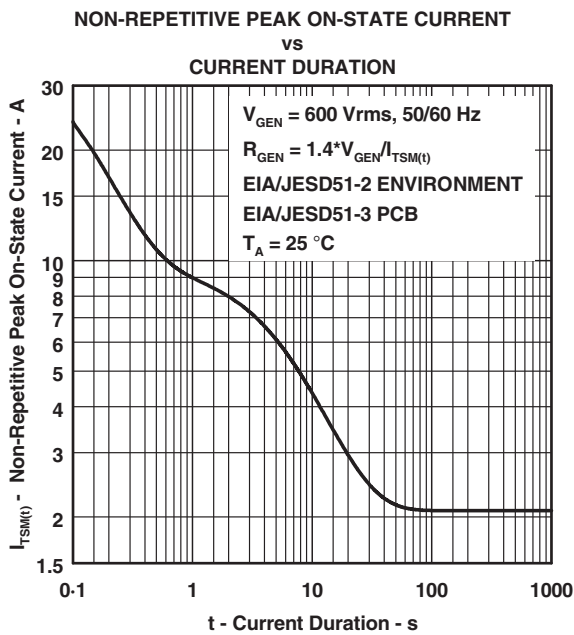

Figure 8.
5. EIA/JESD51-2 environment and EIA/JESD51-3 PCB with standard footprint dimensions connected with 5 A rated printed wiring track widths. See Figure 8 for the current ratings at other durations. Derate current values at $-0.61\text{ }^\circ\text{C}$ for ambient temperatures above $25\text{ }^\circ\text{C}$
The protector can withstand currents applied for times not exceeding those shown in Figure 8. Currents that exceed these times must be terminated or reduced to avoid protector failure. Fuses, PTC (Positive Temperature Coefficient) resistors and fusible resistors are overcurrent protection devices which can be used to reduce the current flow. Protective fuses may range from a few hundred milliamperes to one ampere. In some cases, it may be necessary to add some extra series resistance to prevent the fuse from opening during impulse testing. The current versus time characteristic of the overcurrent protector must be below the line shown in Figure 8. In some cases there may be a further time limit imposed by the test standard (e.g. UL 1459 wiring simulator failure).